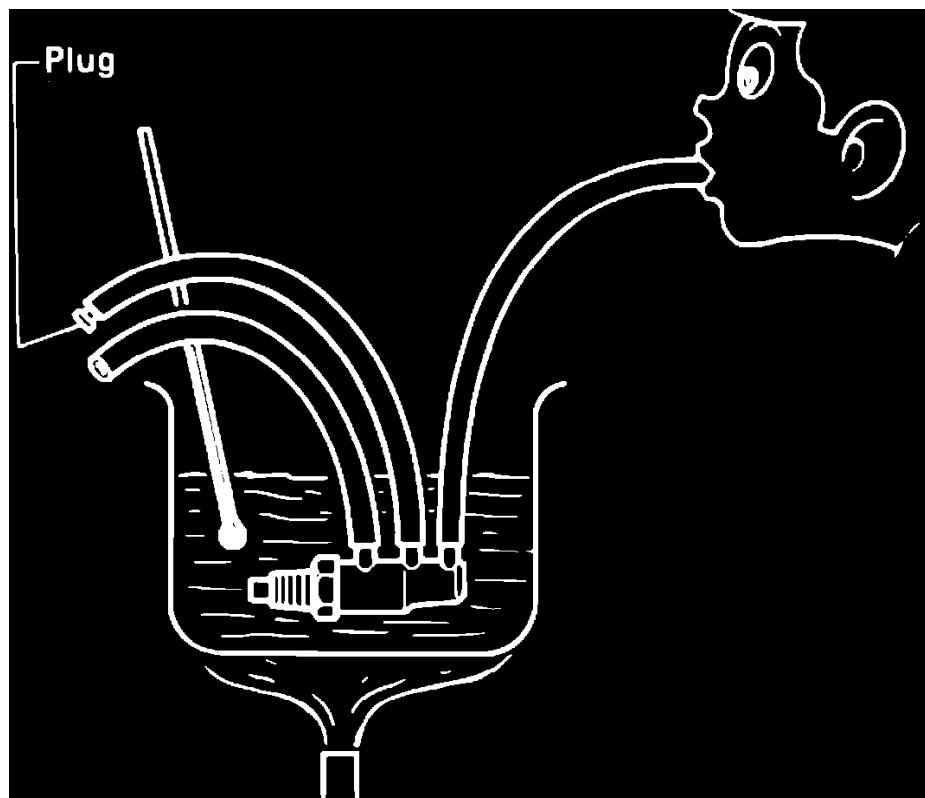

Fig. 54 Thermal vacuum valve test
2. Inhale air from air cleaner side port, **Fig. 54**. Ensure valve opens at temperatures between 59°F and 140°F and is closed at all other temperatures. **Do not allow water to get inside valve.**